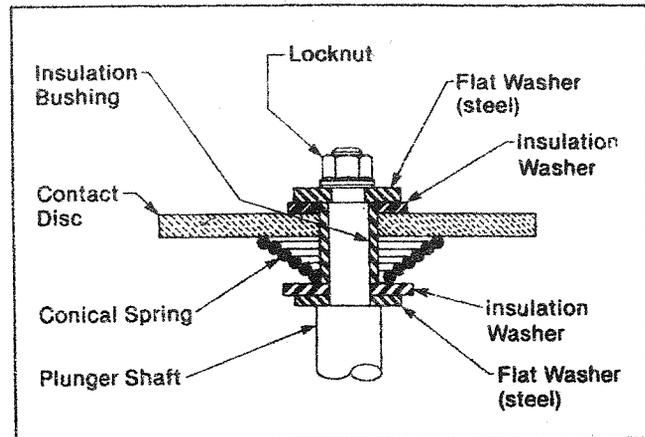

Figure 32
16.10 Apply a drop of Loctite #2114 on the shaft threads and install 1/4" locknut finger-tight to hold contact disc assembly together. Grip the plunger in a brass jaw vise and torque the nut to 55-60 lbs. in. See figure 32 for proper contact disc assembly.